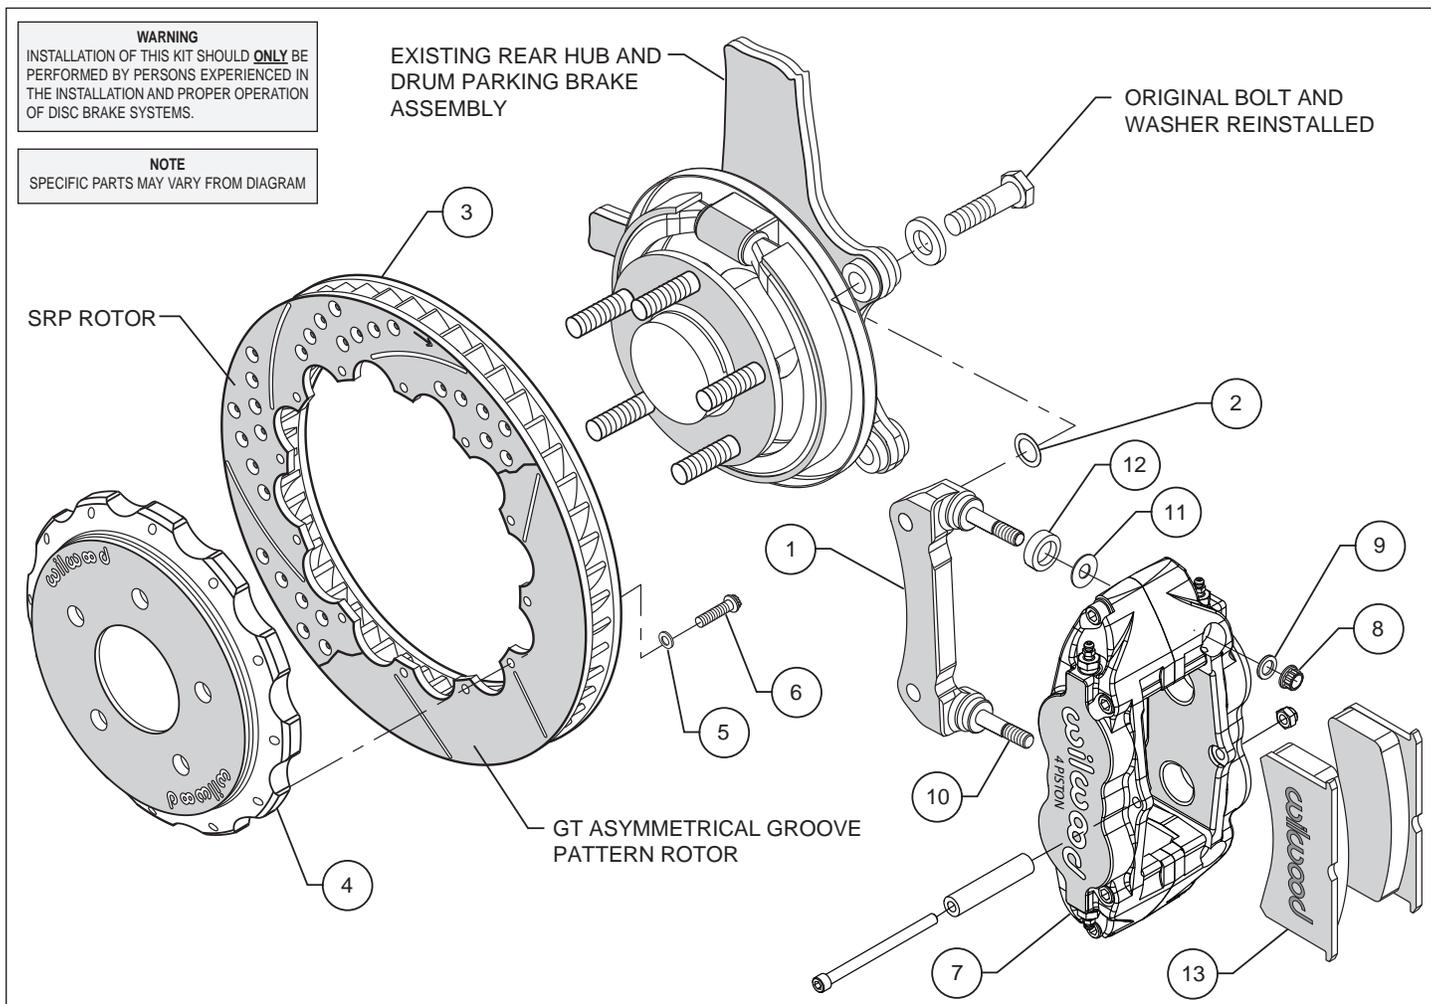
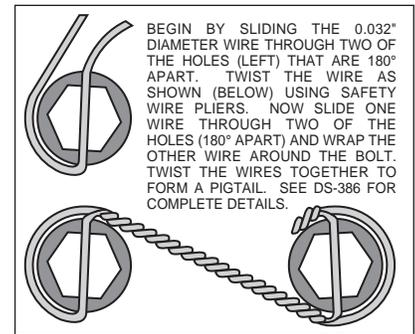

Figure 1. Typical Installation Configuration
Figure 3. Safety Wire Diagram
- Assemble the rotor (3) to the hat (4) with the bolts (6) and washers (5) as indicated in the configuration pictured in Figure 1. Using an alternating sequence, apply red *Loctite*® 271 to the threads and torque bolts to 155 in-lb. For an added measure of security, the bolts may be safety wired using standard 0.032 inch diameter stainless steel safety wire as shown in Figure 3. Please refer to Wilwood's data sheet DS-386 (available at www.wilwood.com/Pdf/DataSheets/ds386.pdf) for complete safety wire installation instructions.